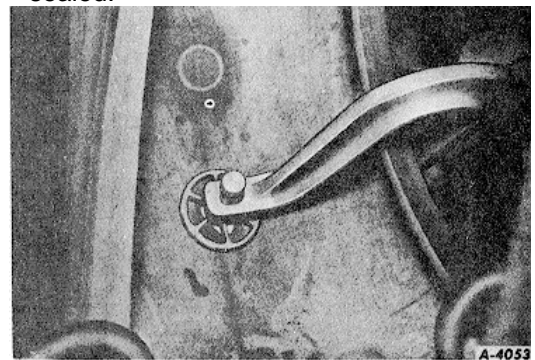

Fig. 18
5. Remove backing from patch and carefully center it over injury. Place a clamp over patch and tighten clamp only finger tight (Fig. 18).